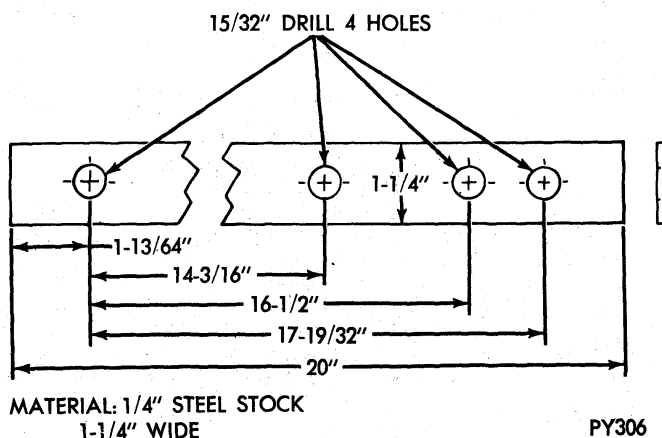

Fig. 9-Hub Seal Cup Retaining Strap
(3) With rotary motion, install converter hub seal cup over input shaft, and through the converter hub seal until the cup bottoms against the pump rotor lugs. Secure with cup retainer strap (Fig. 9), using converter housing to engine block retaining bolts.